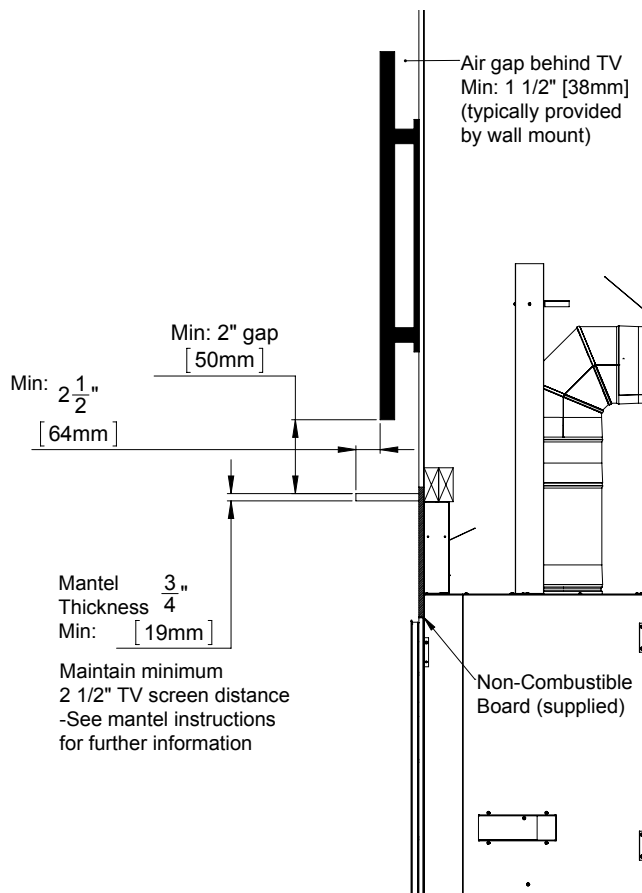

Figure 64. Minimum TV Install
**Mantel Only Installaton:** Always maintain minimum clearances (see Figure 64). The total depth of the TV including the wall mount will determine the minimum allowable mantel depth.